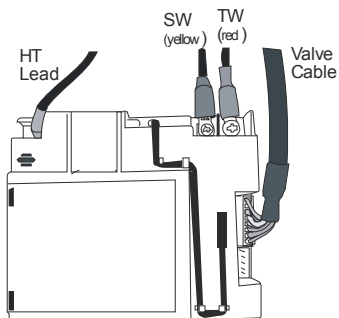

Figure 89
2. Gently pull out the HT lead and the valve cable from the receiver (see **Figure 89**).